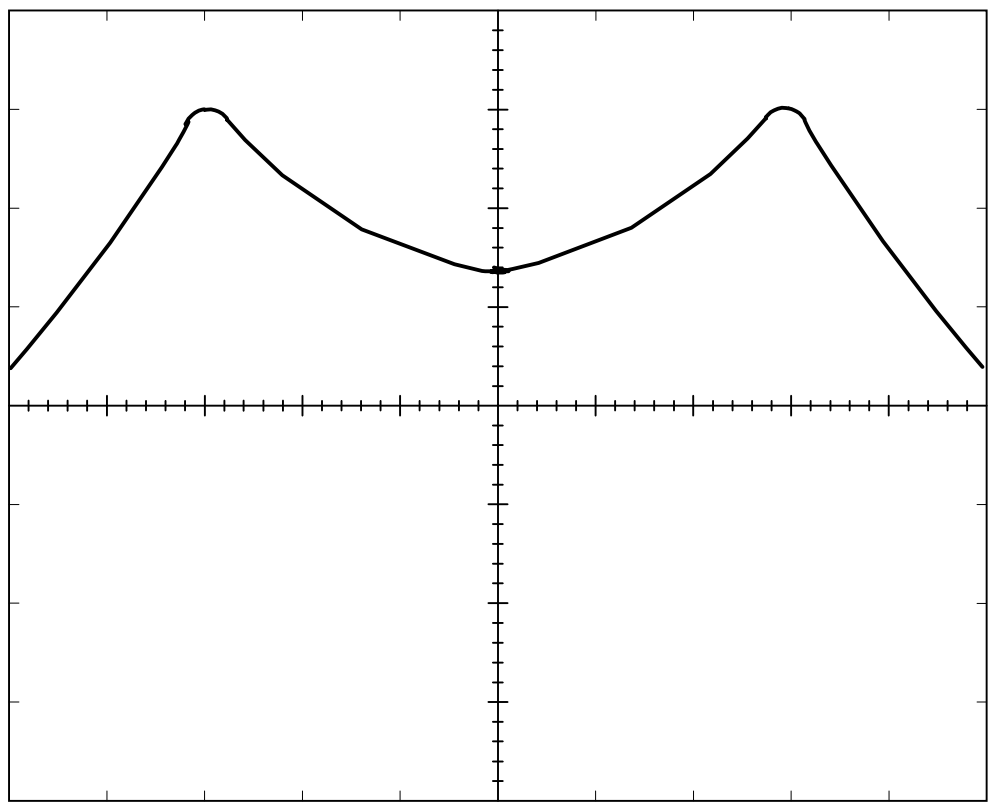

Figure 9.2
- 9.4 Adjust C10 so that the two sideband peaks are symmetrical around the center frequency, see Figure 9.2.